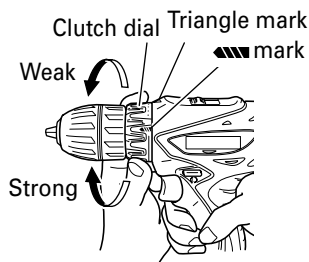

Fig. 9
## 6. Confirm the clutch dial position (see Fig. 9).
(2) Tightening torque indication (See Fig. 9)
- (3) Adjusting the tightening torque (See Fig. 9)